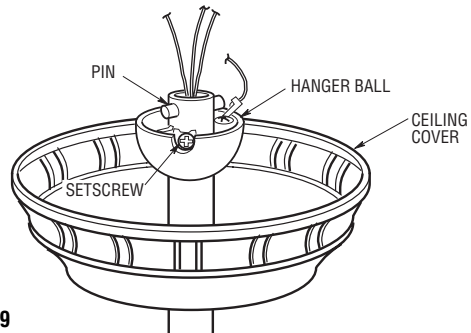

Figure 9
- 11. Reinstall the hanger ball (Figure 9) on the downrod as follows. Route the three 80" motor leads through the hanger ball. Position the pin through the two holes in the downrod and align the hanger ball so the pin is captured in the groove in the top of the hanger ball. Pull the hanger ball up tight against the pin and securely tighten the setscrew in the hanger ball. A loose setscrew could create fan wobble.